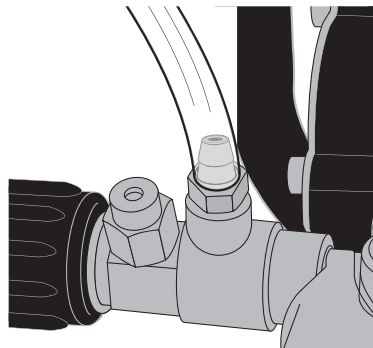

Figure 5-6
1. Ensure detergent siphon hose is attached to barbed fitting location near high pressure hose connection of pump as shown. See Figure 5-6.